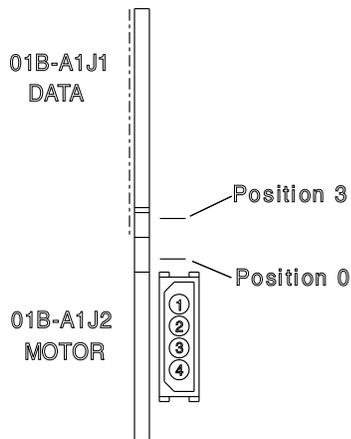

Figure 4-74. FDD Connectors
1. Check that the new FDD has a jumper in position 0 (refer to Figure 4-74).